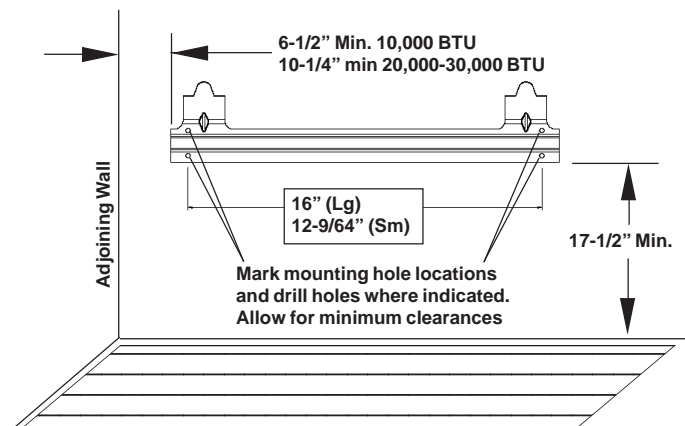

Figure 7
2. Mark screw locations on wall (see figure 7).